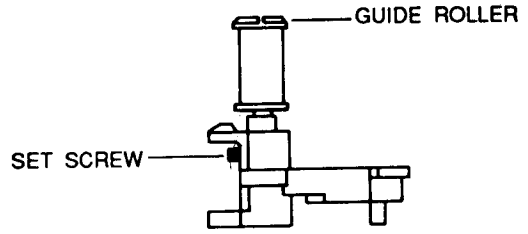

Fig. 12
- 6. Slightly loosen the set screw at the lower part of the S, T-guide rollers with a (Hex Wrench - 0.9mm) so that the guide roller can be adjusted with reasonable tightness. (Refer to Fig. 12)